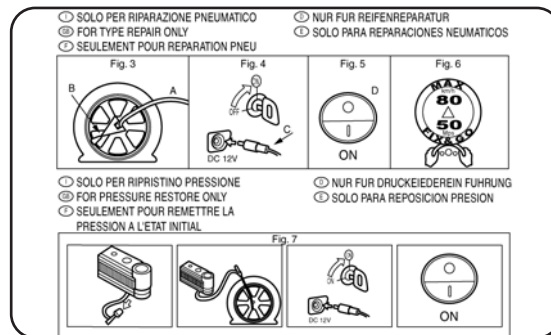

fig. 123
- an information booklet fig. 123, providing instructions for using the kit correctly. This booklet should be given to the persons charged with handling the tyre treated with this kit;